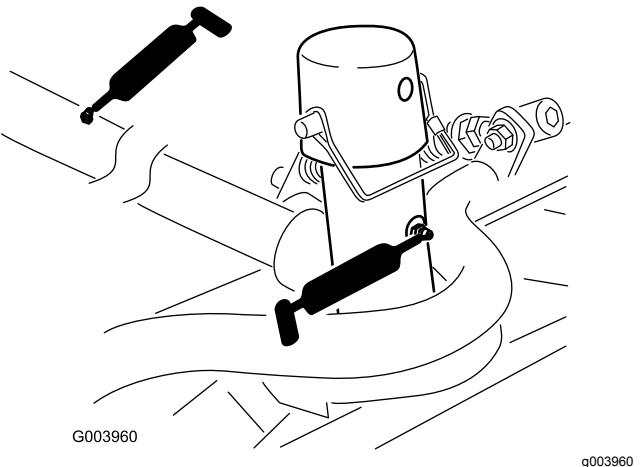

Figure 40
- Cutting-unit carrier-frame and pivot (2 each) (Figure 40)